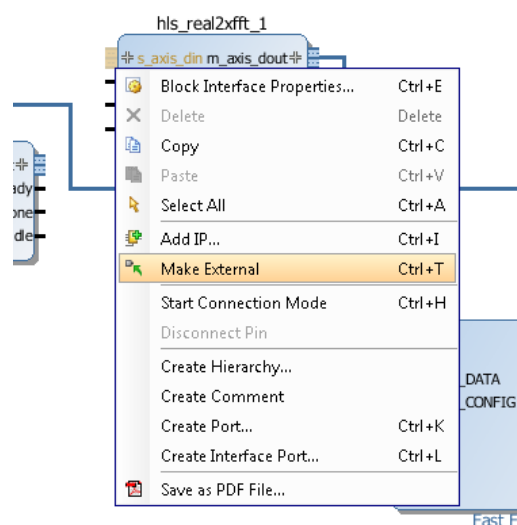

Figure 203: Make External Connections
- Right-click the “**s_axis_din**” interface connector on Hls_real2xfft block and select **Make External** (Figure 203).